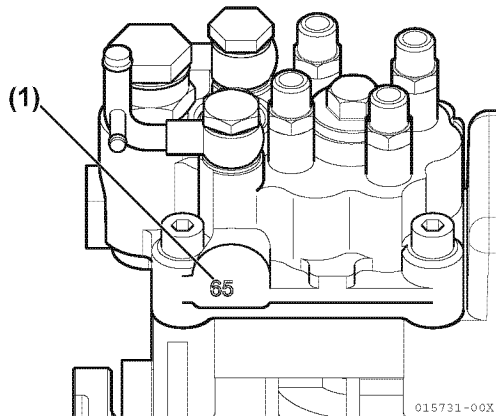

Figure 6-45
(b) Calculate the difference between the timing index numbers (**Figure 6-45, (1)**) of the fuel injection pump that you removed and the replacement fuel injection pump. See *Calculation Example below.*